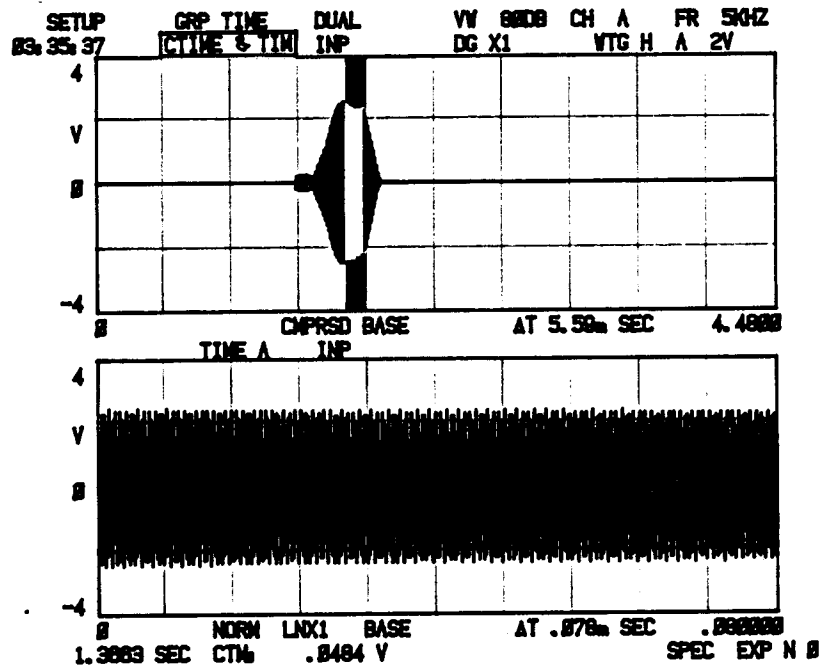

Figure 1-34. CTIME & TIME Display
The CTIME & TIME selection (menu item 3) on the TIME FUNCTION menu allows simultaneous viewing of both compressed and non-compressed time data. Press the FUNC locator, 3 and ENT buttons to select the CTIME & TIME function. Figure 1-34 is an example of a CTIME & TIME display.